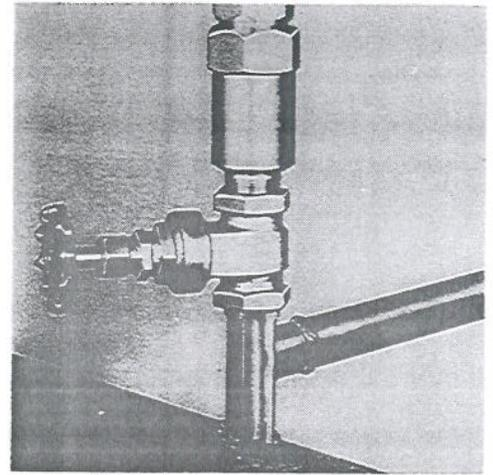

FIGURE 29
- a. If using a Service Tee with welding inlet. Advance boring bar until the lower end of the shut-off tool contacts the pipe. **Figure 28** or **Figure 29**.